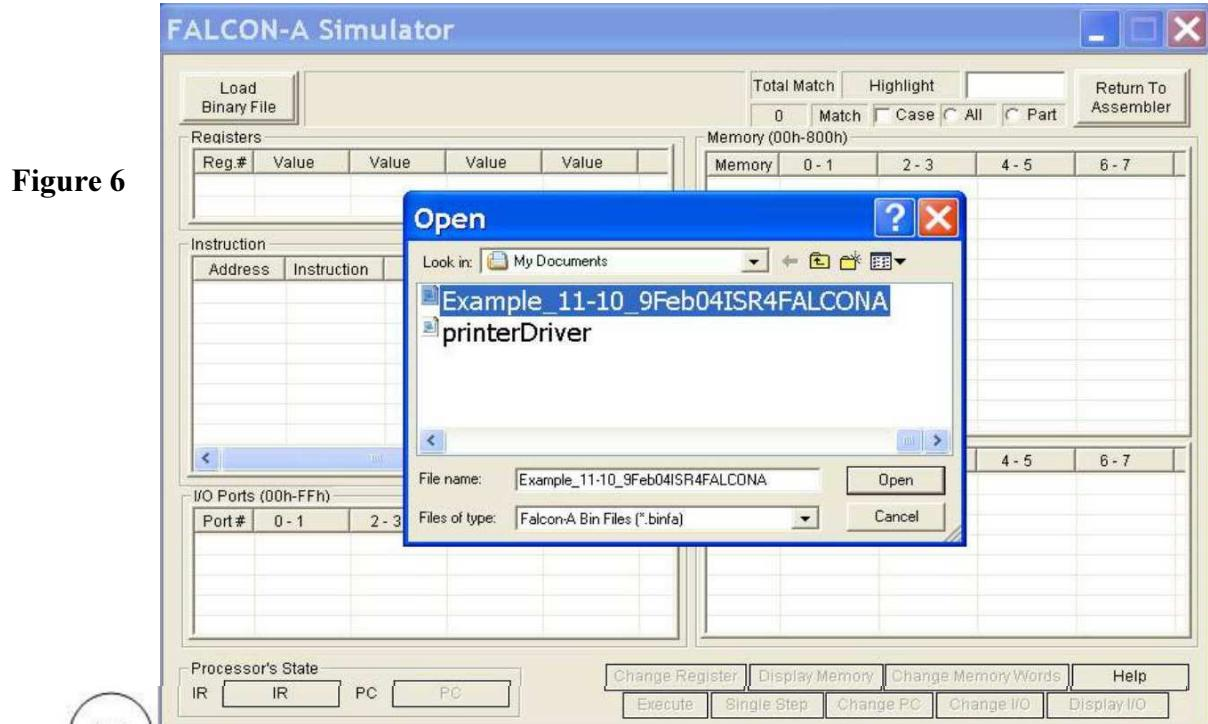

Figure 6
Figure 6 shows a snapshot of the FALCON-A Simulator. This tool loads a FALCON-A binary file with a (.binfa) extension and presents its contents into different areas of the simulator. It allows the user to execute the program to a specific point within a time frame or just executes it, line by line. It also allows the user to view the registers, I/O port values and memory contents as the instructions execute.
*Load Binary File:* The button labeled as “11” in Figure 6, allows the user to choose and open a FALCON-A binary file with a (.binfa) extension. When a file is being loaded into the simulator all the register, constants (if any) and memory values are set.
*Registers:* The area labeled as “12” in Figure 6. enables, the user to see values present in different registers before during and after execution.
*Instruction:* This area is labeled as “13” in Figure 6 and contains the value of PC, address of an instruction, its representation in Assembly, the Register Transfer Language, the op-code and the instruction type.
*I/O Ports:* I/O ports are labeled as “14” in Figure 6. These ports are available for the user to enter input operation values and visualize output operation values whenever an I/O operation takes place in the program. The input value for an input operation is given by the user before an instruction executes. The output values are visible in the I/O port area once the instruction has successfully executed.
*Memory:* The memory is divided into 2 areas and is labeled as “15” in Figure 6, to facilitate the view of data stored at different memory locations before, during and after program execution.
*Processor’s State:* Labeled as “16” in Figure 6, this area shows the current values of the Instruction register and the Program Counter while the program executes.
*Search:* The search option for the FALCON-A simulator is labeled as “17” in Figure 6. This feature is similar to the way the search feature of the FALCON-A Assembler works. It offers to highlight the search string which goes as an input, with the “All” and “Part” option. The results of the search are highlighted in the color yellow. It also indicates the total number of matches.
The following is a description of the options available on the button panel labeled as “18” in Figure 6.
- To start the simulator, click on the start simulation button labeled as “6”. This will open the dialog box shown in Figure 6.